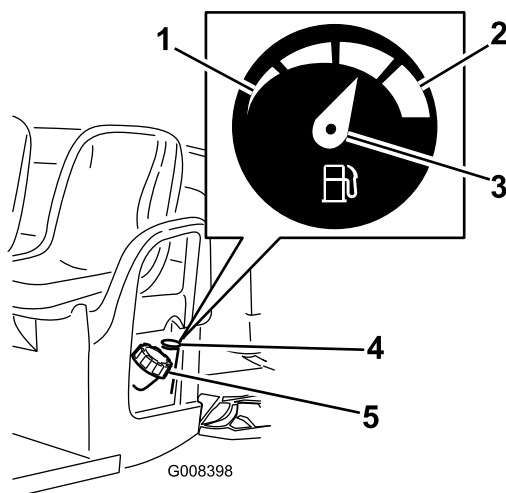

Figure 18
2. Clean the area around the fuel-tank cap (Figure 18).